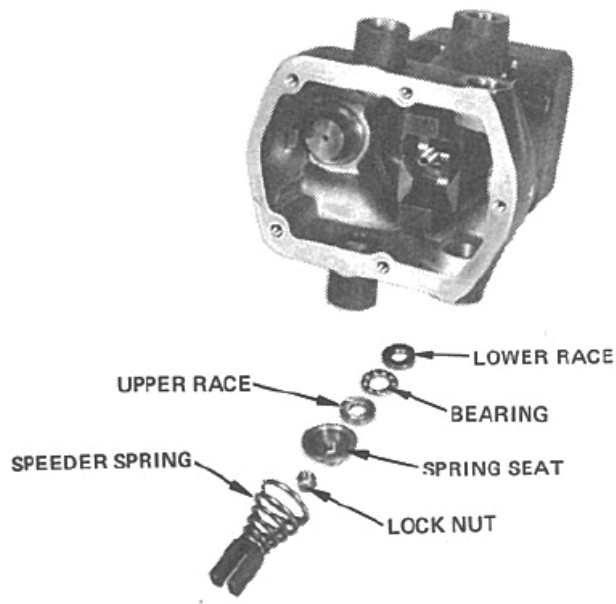

Figure 3-18. Thrust Bearing and Speeder Spring Parts
15. Assemble thrust bearing (39), spring seat (40), nut (41) and speeder spring (42). See Figure 3-18 through 3-21. Place bearing with open side down.